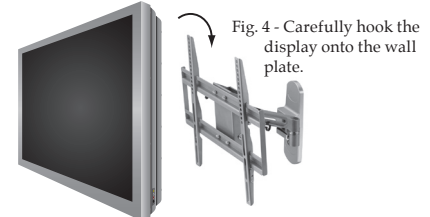

Fig. 4 - Carefully hook the display onto the wall plate.
1. With the help of another person, carefully lift your display and place it on mount (see Fig. 4). Place the display in the middle of the mount, and do not release the display until the mounting arms have securely hooked onto the crossbars.